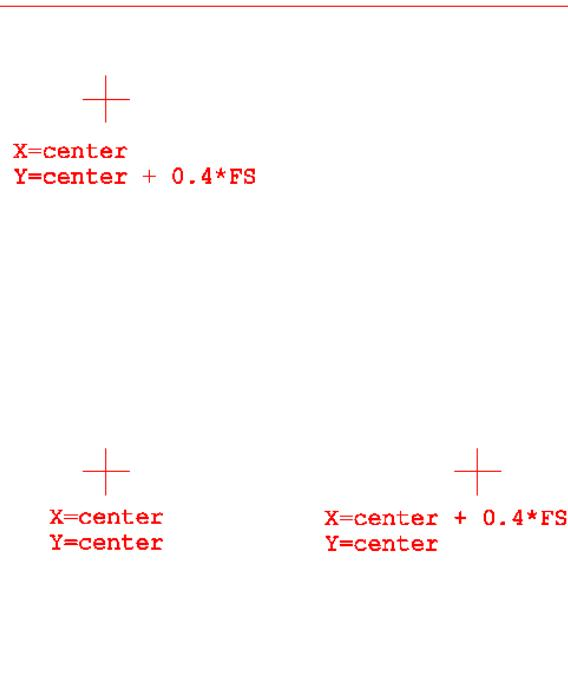

Figure 88: Job in SAMLight for Measurement to calculate F-Theta factor values.
- Temporary linear lookup table: Insert the values of your temporary linear Z lookup table and *Distance 2nd mirror to focus (Z = 0 focus dist)* to the excel file (see figure 88)